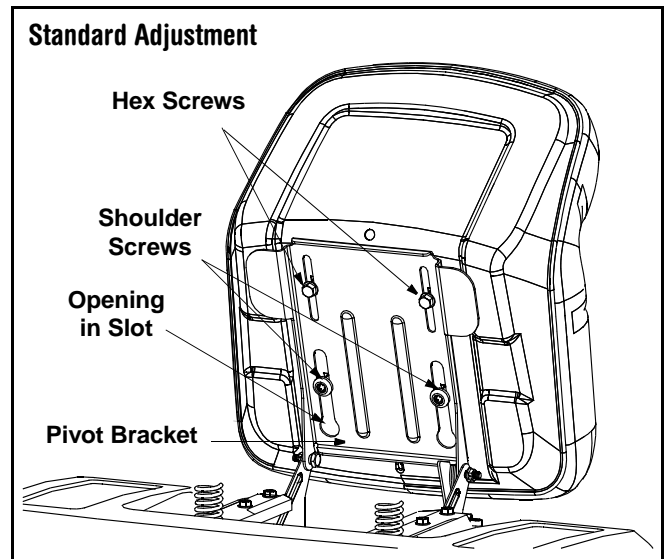
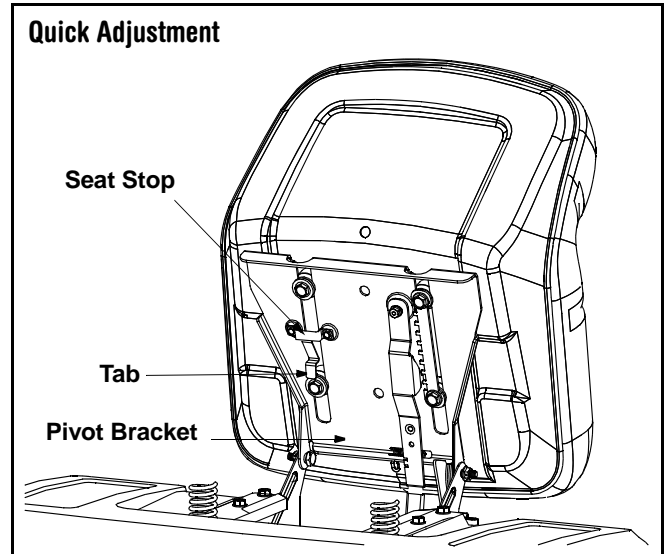
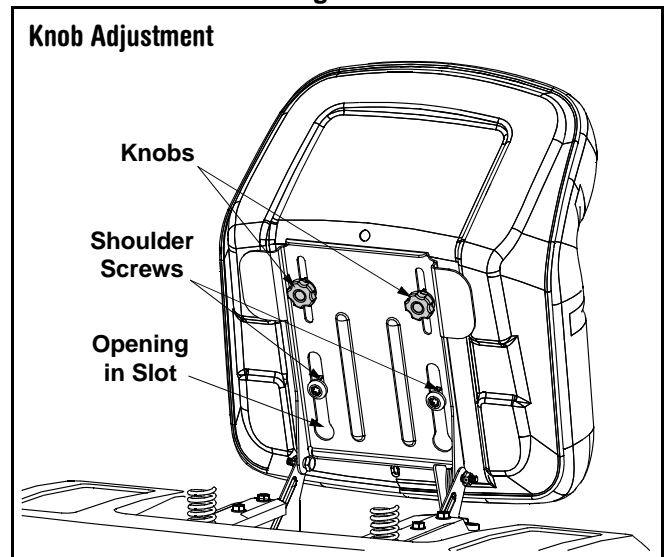

Figure 3
Figure 4
Figure 5
Refer to Figure 3, Figure 4 and Figure 5 to identify your tractor's seat style and follow applicable instructions below.
1. Position the shoulder screws (found on the base of the seat) inside the slot openings in the seat pivot bracket. Figure 3.
3. Select desired position for the seat, and secure with the two hex screws removed earlier. See Figure 3.
**NOTE:** If your seat was shipped mounted backwards on the seat pivot bracket, pull out the tab found on the seat stop and hold it open while sliding the seat off the seat pivot bracket. See Figure 4.
2. Slide seat in until front seat spacer engages the seat stop. See Figure 4.
1. Position the shoulder screws (found on the base of the seat) inside the slot openings in the seat pivot bracket. Figure 5.
3. Select desired position for the seat, and secure with the two knobs removed earlier. See Figure 5.